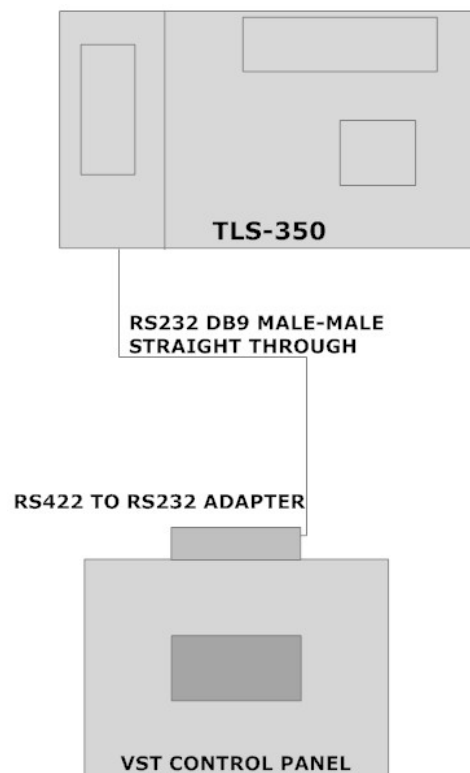

Figure 11: RS422 to RS232 Adapter to TLS-350 Connection - Option A Direct Connection
- See **Figures 11 - 15**
- **OPTION A:** Using the 6 foot RS232 (DB9 Male to Male) serial cable supplied with the VST *Green Machine*, connect one end of the serial cable into the RS232 port on the Adapter located on top of the VST Green Machine Control Panel and the other directly to the TLS-350 Multi-port MODBUS card. Secure these connections. If a longer cable is needed it may be ordered, however the cable length should not exceed 50 feet. Finally set the communications setting for the COM 6 in the TLS-350 to 9600 BPS, 8 data bits, 1 stop bit, No parity. See **figure 11**.